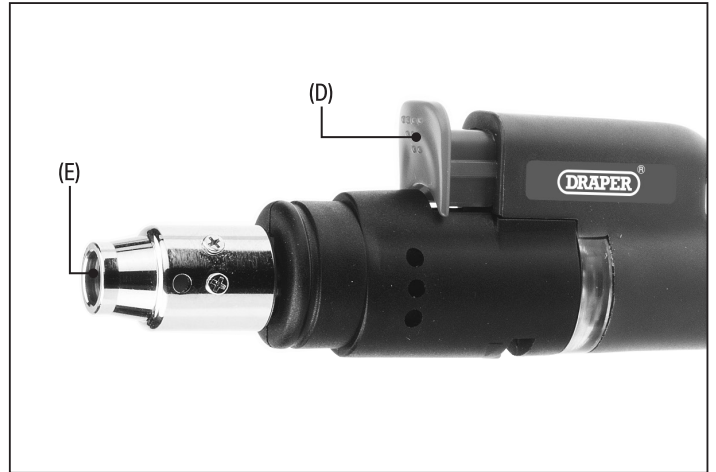

Fig. 3
Press the ignition button (D) repeatedly until the torch is lit (Fig. 3).